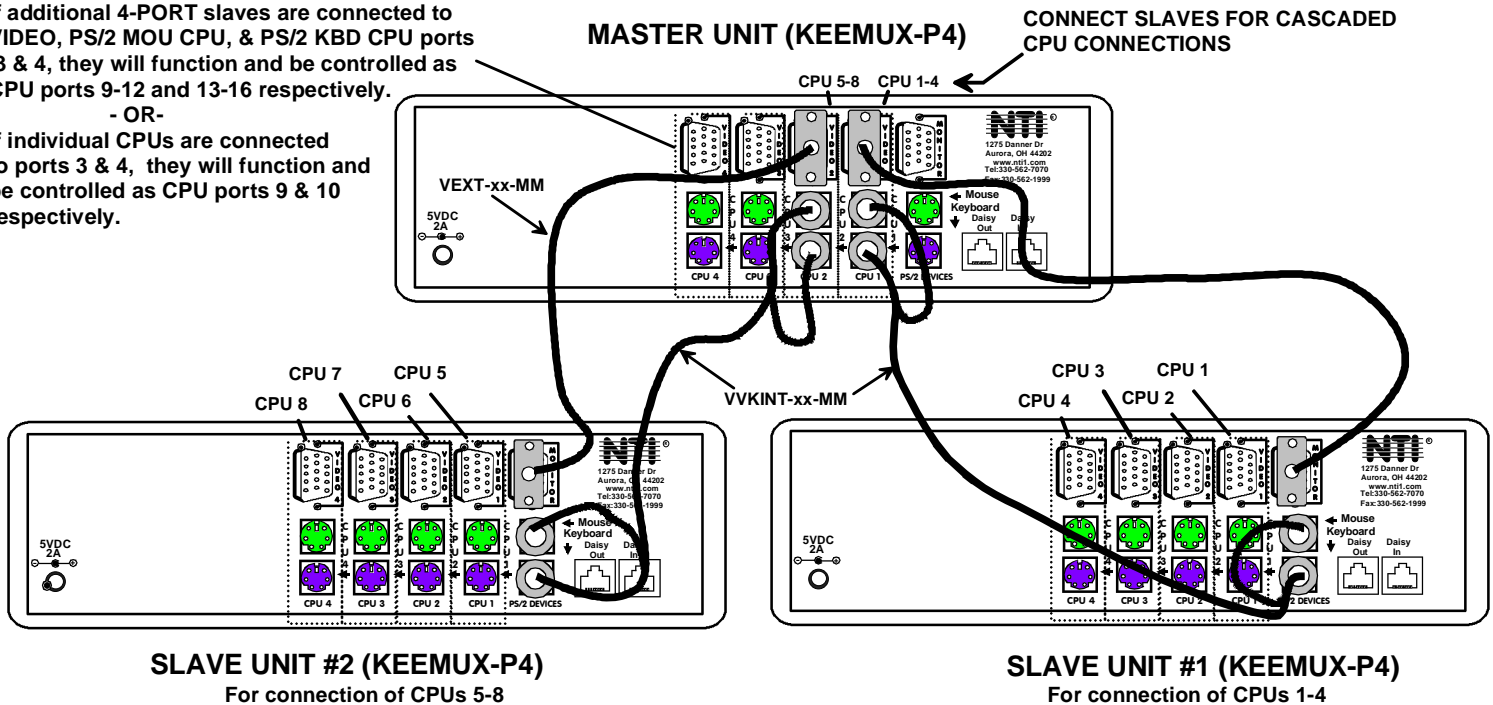

Figure 6- Cable connections for cascading
FYI: Port 1 of the master unit (with a 4-port slave unit connected to it) will function and be controlled as ports 1-4 (1-8 for an 8-port slave.). Port 2 of the master unit (with a second 4-port slave unit connected) will function and be controlled as port numbers 5-8 (9-16 for an 8-port slave). See Fig. 6 on page 6.
- With a VVKINT-xx-MM or (2) VKEXT-xx-MMs, connect slave #1's PS/2 DEVICES ports to the master's CPU1 KEYBOARD and MOUSE ports.
- Repeat steps c and d for each additional slave unit, keeping in mind that each slave will connect to the next available master's port (i.e. slave #2 to master's VIDEO 2 and CPU 2 KEYBOARD and MOUSE, etc.). See Fig. 6 below.
- A connection to a CPU from the keyboard would be achieved by typing the appropriate port number. (See Fig. 6 on page 6.)
- When cascading, if not all of the ports are used on each slave attached to your system, THE PORT NUMBER(S) ASSOCIATED WITH THE UNUSED PORT(S) WILL NOT BE ACCESSIBLE when trying to control the switches connected to the system. (I.e. if ports 7 and 8 are not used on the first slave and an attempt is made to connect to ports 7 or 8 while in Command Mode, the KEEMUX will ignore the attempt.)